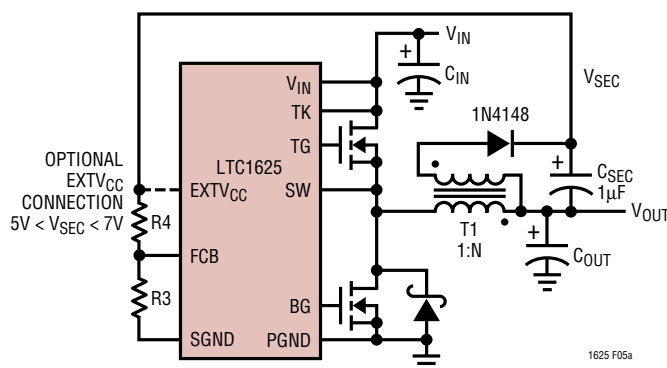
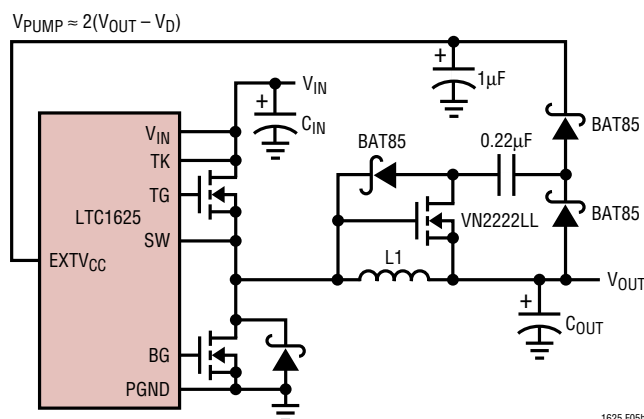

Figure 5a: Secondary Output Loop and $EXTV_{CC}$ Connection
Figure 5b: Capacitive Charge Pump for $EXTV_{CC}$
- $EXTV_{CC}$ connected to an output-derived boost network. For 3.3V and other low voltage regulators, efficiency gains can still be realized by connecting $EXTV_{CC}$ to an output-derived voltage which has been boosted to greater than 4.7V. This can be done with either an inductive boost winding as shown in Figure 5a or a capacitive charge pump as shown in Figure 5b.
The secondary output voltage V_{SEC} is normally set as shown in Figure 5a by the turns ratio N of the transformer: